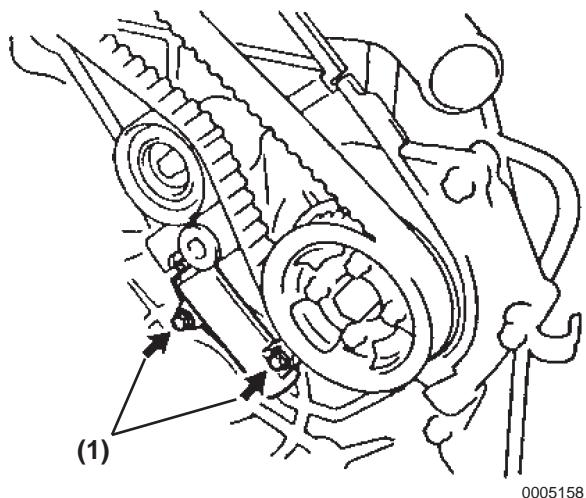

Figure 5-160
- Alternately loosen the two bolts (Figure 5-160, (1)) to remove them, and then remove the timing belt tensioner.